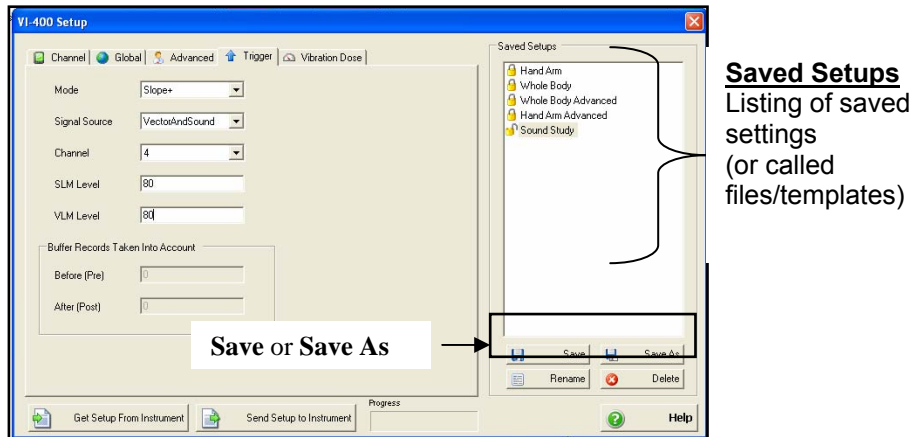

Figure 8-17: illustrates saving your trigger setup
3. Select the appropriate Sound setup in the Saved Settings (see Figure 8-17).